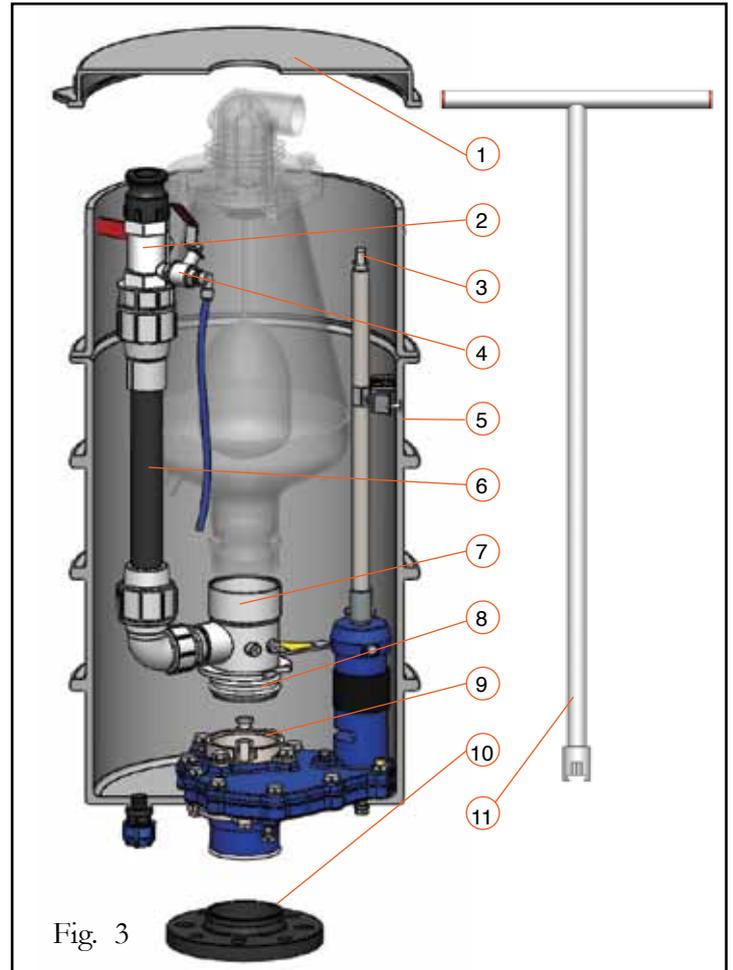

Fig. 3
2. Close the Pressure Release Valve (Fig. 3 #4).
3. Close the 1½" Ball Valve (Fig. 3 #2) on the backwash assembly.
4. Open the disc valve (Fig. 3 #9) by fully turning the Operator Rod (Fig. 3 #3) in a counterclockwise direction
1. Close the Disk Valve (Fig. 3 #8) by attaching the "T" Key (Fig. 3 #11) to the upper end of the Operator Rod (Fig. 3 #3) and fully turning in a clockwise direction.
2. Open the Pressure Release Valve (Fig. 3 #4).
3. Open the 1½" Ball Valve (Fig. 3 #2) on the backwash assembly.
4. Slide the "T" Key (Fig. 3 #11) on the stainless steel handle of the assembly until it locks in place (See Fig. 2).
6. Lift and remove the Air Valve Assembly from the valve box housing (Fig. 3 #5).
1. Before beginning – grease well the O-Rings on the Adapter (Fig. 3 #8).
2. Insert the Air Valve Assembly into the Disc Valve (Fig. 3 #9).
3. Lock the Air Valve Assembly into the Disc Valve by rotating the "T" Key (Fig. 3 #11) and Air Valve Assembly in a counterclockwise direction - see Fig. 1B, 1A